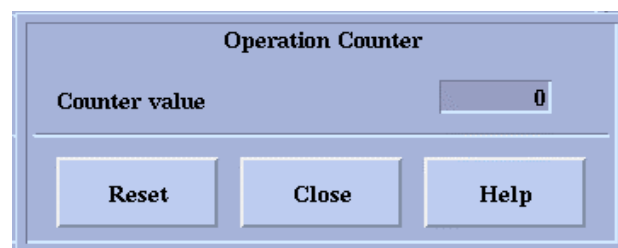

Figure 7. REC 501 operation counter dialog (FPU_C501H.PIC)
Operations can be made, if the authorization level of the operator is Control (1) or higher. The counter can be reset by the Reset button. The operation is confirmed or cancelled in the opening information dialog. Figure 7 presents the REC 501 operation counter dialog.